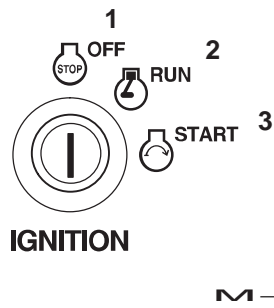

Figure 19
- Turn the ignition key to off (Fig. 19).